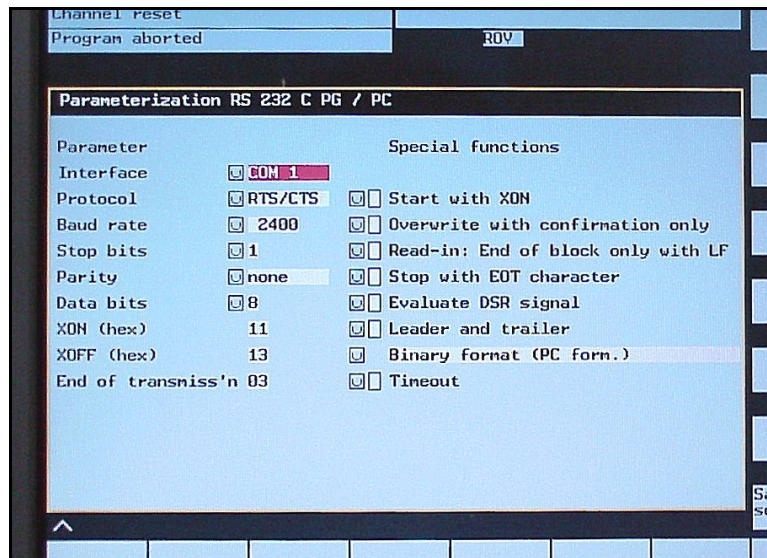

Figure 2 Communications parameter settings for MMC100.
14. Press the **Set** soft key. At this point, two options columns are displayed (See Figure 2). The left options column is the parameters for communications. The right options column is the “Special Functions.”